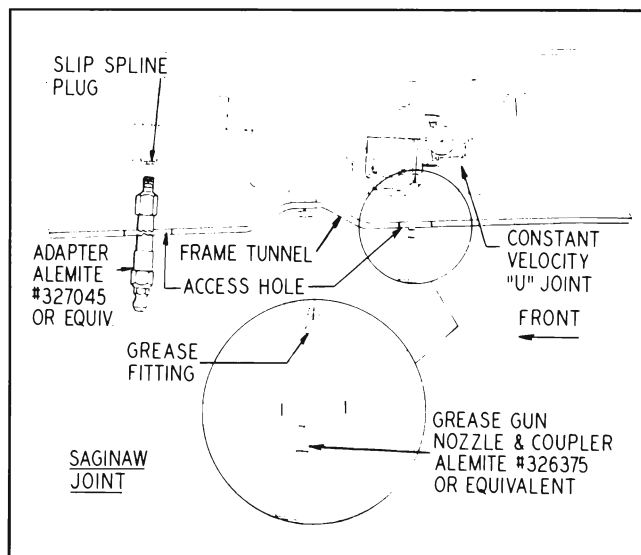

Figure 1-13—Propeller Shaft Slip Spline and Constant Velocity Universal Joint Lubrication Points (Saginaw Joint)
1. Constant Velocity Universal Joint Center Ball. Rotate propeller shaft till fitting is visible through rear hole in frame tunnel. See Figures 1-13 and 1-14. Insert special grease gun nozzle (Alemite #326375 or equivalent) through frame tunnel to bear solidly against fitting. One or two shots from a lever type grease gun are sufficient.
Each 10,000 miles, rotate propeller shaft so plug in propeller shaft is accessible through front hole in frame tunnel. See Figure 1-13 and 1-14. Remove plug and install grease fitting. Apply multi-purpose grease EP #1 Grade. Do not use ordinary chassis lube. Remove grease fitting and reinstall plug. EP #1 lube is available through many oil companies.